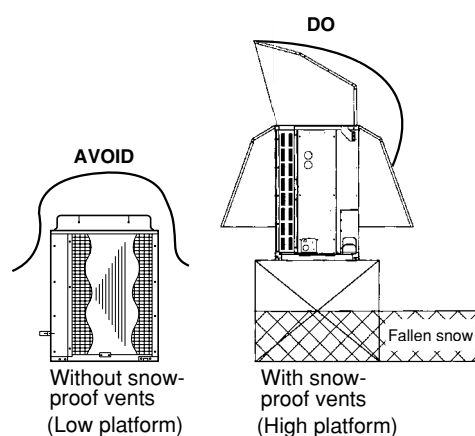

Fig. 2-10
In regions with heavy snow-fall, the outdoor unit should be provided with a solid, raised platform and snow-proof vents. (Fig. 2-10)
- a) The platform should be higher than the maximum snow depth. (Fig. 2-10)